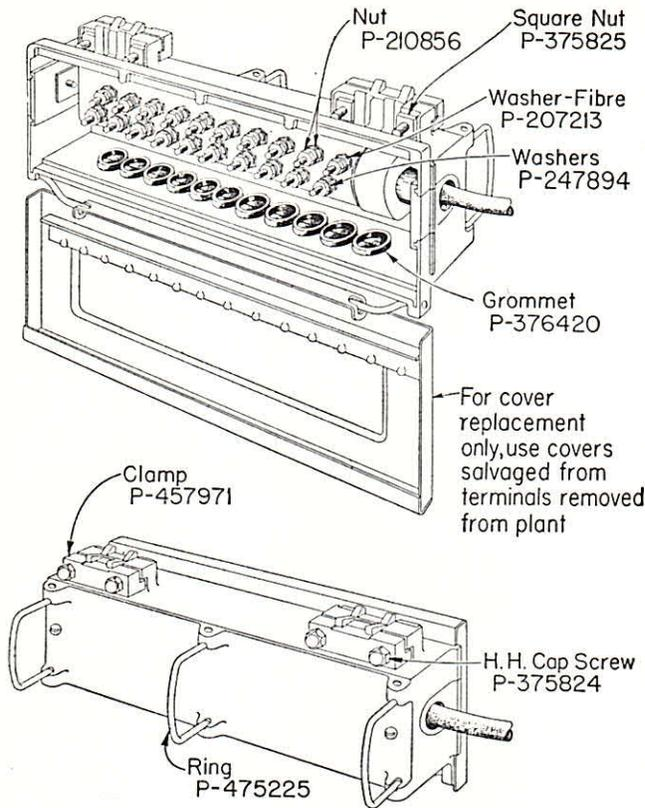

Fig. 4
5.01 Parts are indicated in Fig. 4.